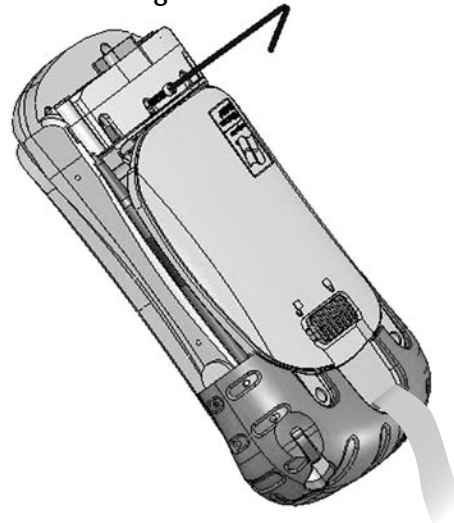

Figure 5: Replacing the screws
- First turn the device upside down so the handstrap latch hangs below the Field PC (see Fig. 5).
- Insert the screws into the screw slots, as shown in Figure 5.